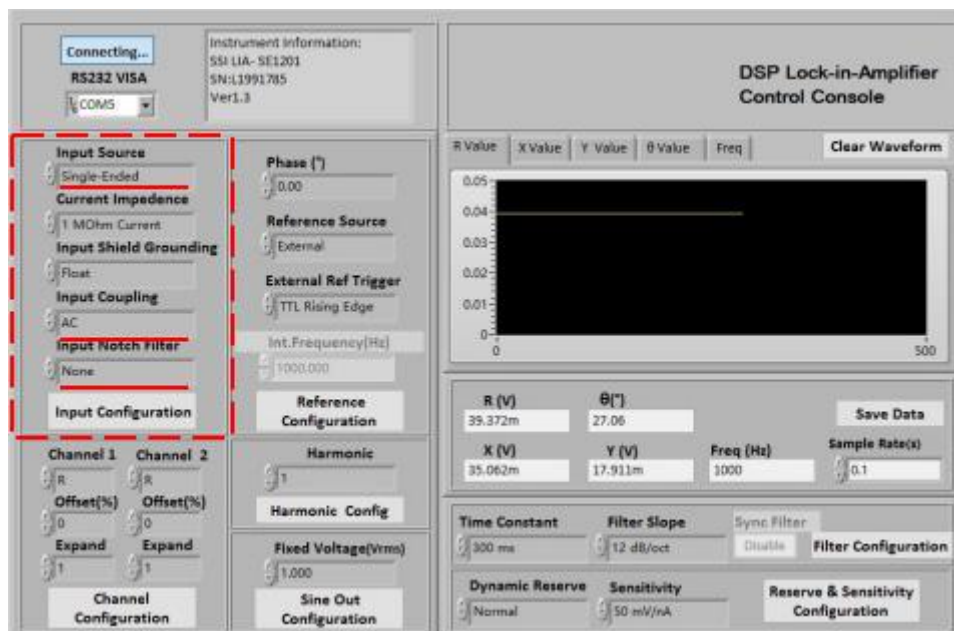

Fig.48 Input Configuration
1. According to Table 8, choose the following options in “Input Setting”, including “Input Source”, “Input Coupling” and “Input Notch Filter” with other options in default, as is shown in Fig.48. At last, click the button